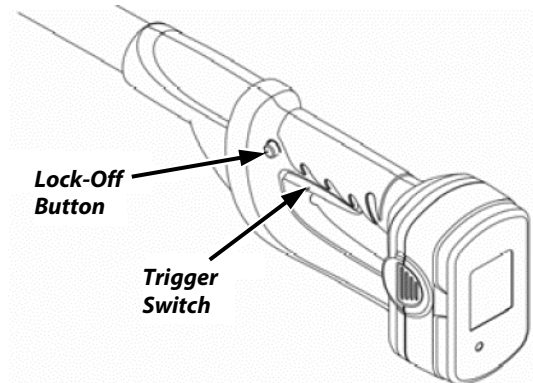

Figure 8
When installing the Battery Pack, **DO NOT** push the Lock-Off Button or squeeze the Trigger ON/OFF Switch (**Figure 8** on page 7).
3. Push the Lock-Off Button IN (**Figure 8**) with your right thumb and squeeze the Trigger ON/OFF Switch with your fingers. Once the Motor starts you can remove your thumb from the Lock-Off Button. If the Saw does not start, make sure the Battery Pack is charged and locked firmly into place in the Saw Housing.